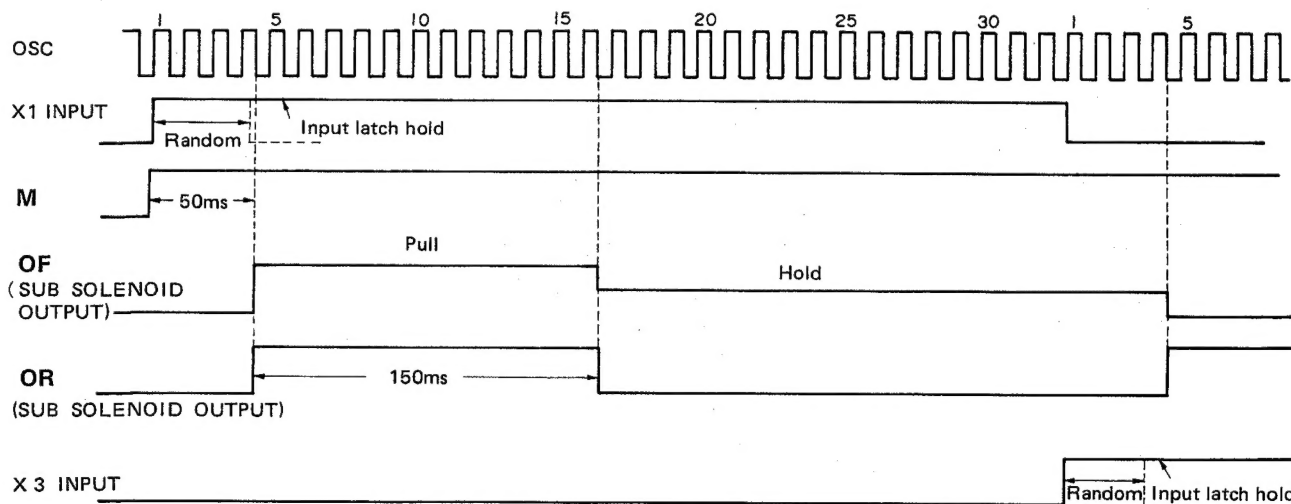

Fig. 4
4) Sub-solenoid double-pull circuit (Fig. 4)